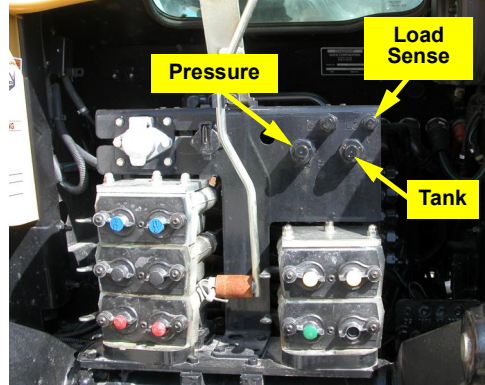

Figure 3a: Pressure, tank and load sense locations
- a. The hydraulic steering block will receive pressure, tank, and load sense connections from the capped ports at the rear of the tractor, above the hydraulic remote valves (Figure 3a).
The bottom left port is the pressure port, the bottom right port is the tank port and the top right port is the load sense port (Figure 3a).